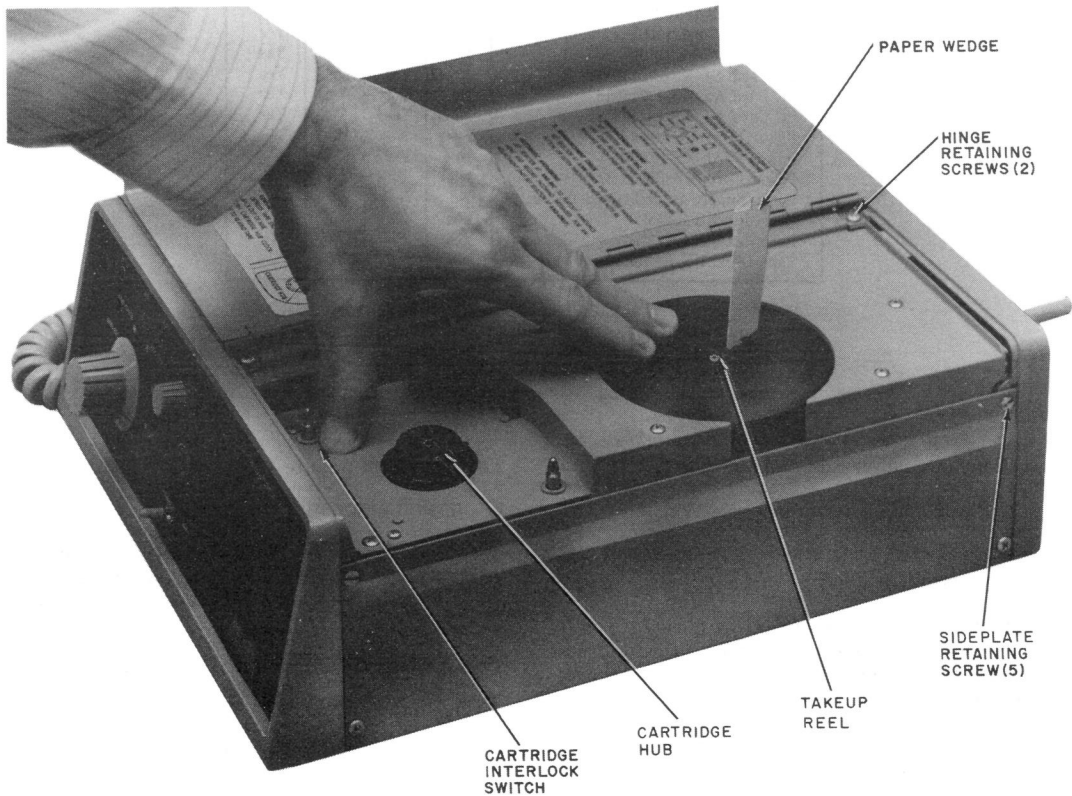
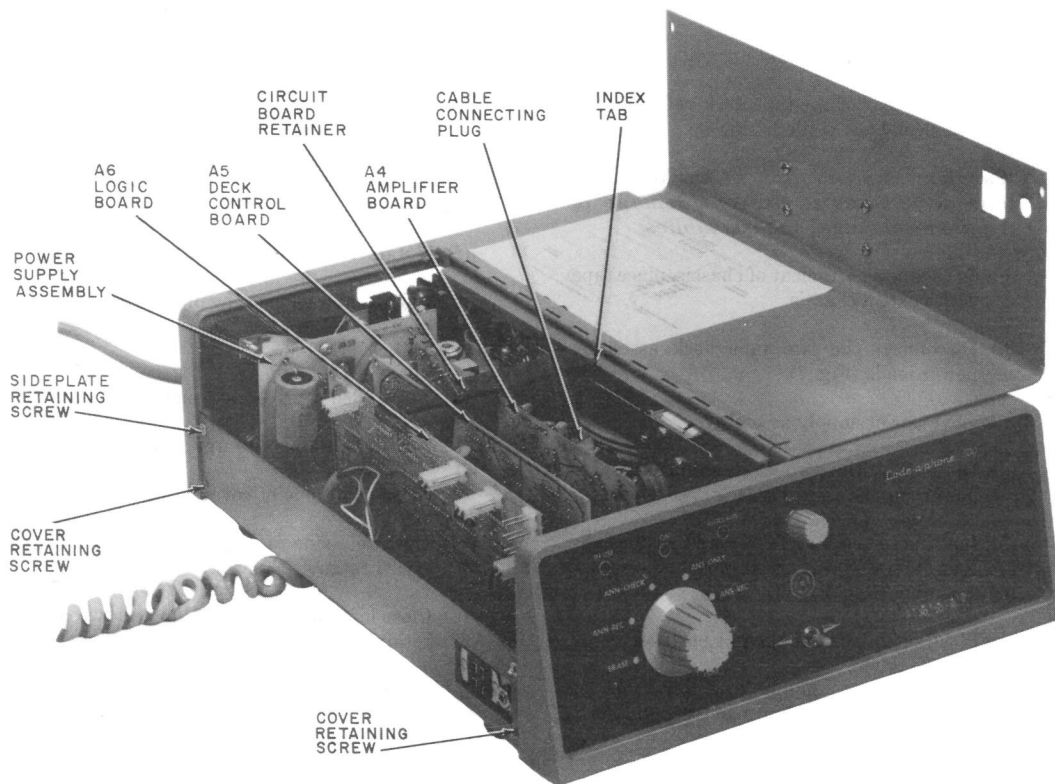

Fig. 3—Resetting "0" Registration on Message Indicator Dial
Fig. 4—Top Cover Removed, Internal View of Components
- (7) Remove power cord from ac outlet.
- (8) Check options for proper selection.
- (9) Check that A4, A5, and A6 circuit boards are properly installed.
- (10) Check that cable connecting plugs for power supply and tape deck (Fig. 7) on the interconnect board and the cable connecting plug on the A4 board (Fig. 4) are firmly in place.
- (11) Replace circuit board retainer, left side cover and reinsert ac power cord.
- (1) Manual method (Fig. 3).
- (2) Rapid rewind method (Fig. 3).
4.01 Plug-in Circuit Boards (A4, A5, and A6; Fig. 4).
(1) Remove top cover (Fig. 4).
- (d) Remove two hinge retaining screws (Fig. 3).
- (2) Remove tape deck.
- (a) Remove cable connecting plug for A4 circuit board (Fig. 4).
- (g) Install cable connecting plug for A4 (Fig. 4).
- (6) Install cover.
- (d) Open left side of cover and install circuit board retainer (Fig. 4).